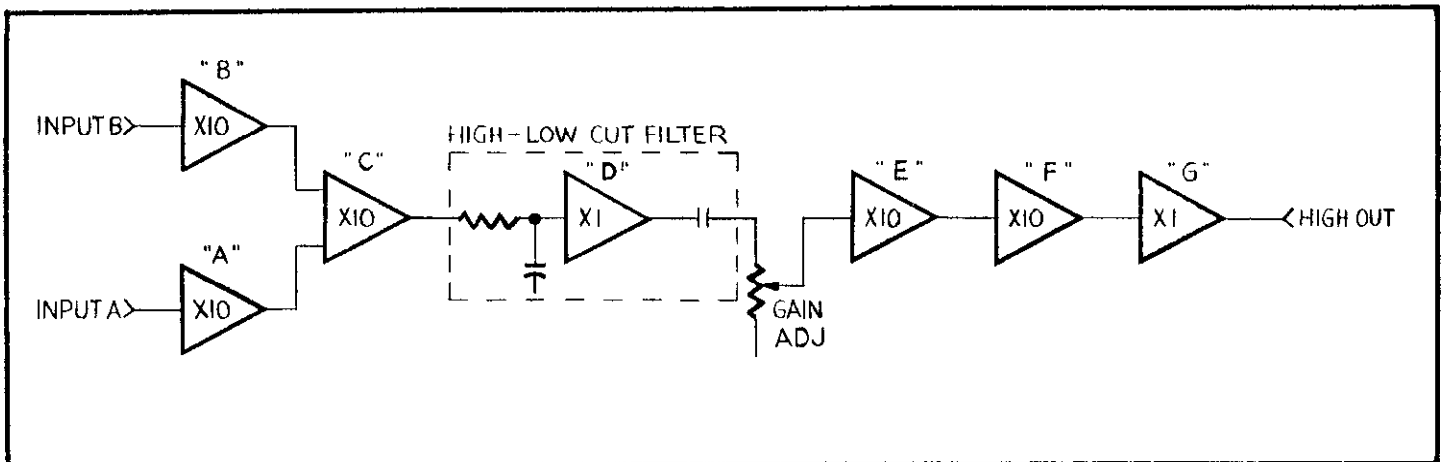

FIGURE 4. Overall Block Diagram.
**a. General.** The Model 103A Nanovolt Amplifier is a high gain voltage amplifier designed for use with single ended or differential inputs. The amplifier is essentially composed of two high impedance input amplifiers, a summing amplifier, a combination high-low cut filter section, two stages of X10 gain, and an output buffer amplifier as shown in Figure 4.